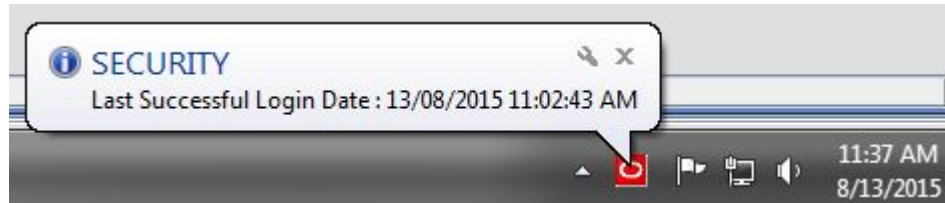

**Figure 3: OCEEMS Authentication Screen**
2. Enter the **User ID** and **Password** on the **OCEEMS Authentication** screen (see Figure 3: OCEEMS Authentication Screen).